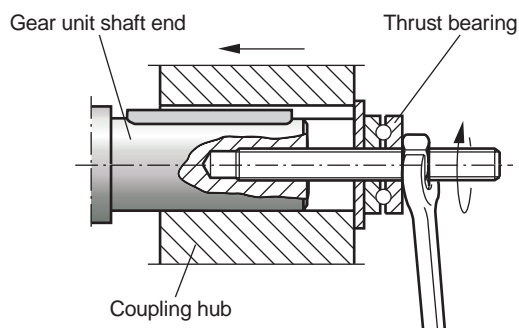

Figure 3: Example of a fitting tool
Figure 3 shows an example of a mounting device for mounting clutches or hubs onto shaft ends of variable speed gear units or motors. The thrust bearing on the mounting device may become redundant.
- Only use a mounting device (see Figure 3) for installing input and output elements. Use the center bore and the thread on the shaft end for positioning purposes.